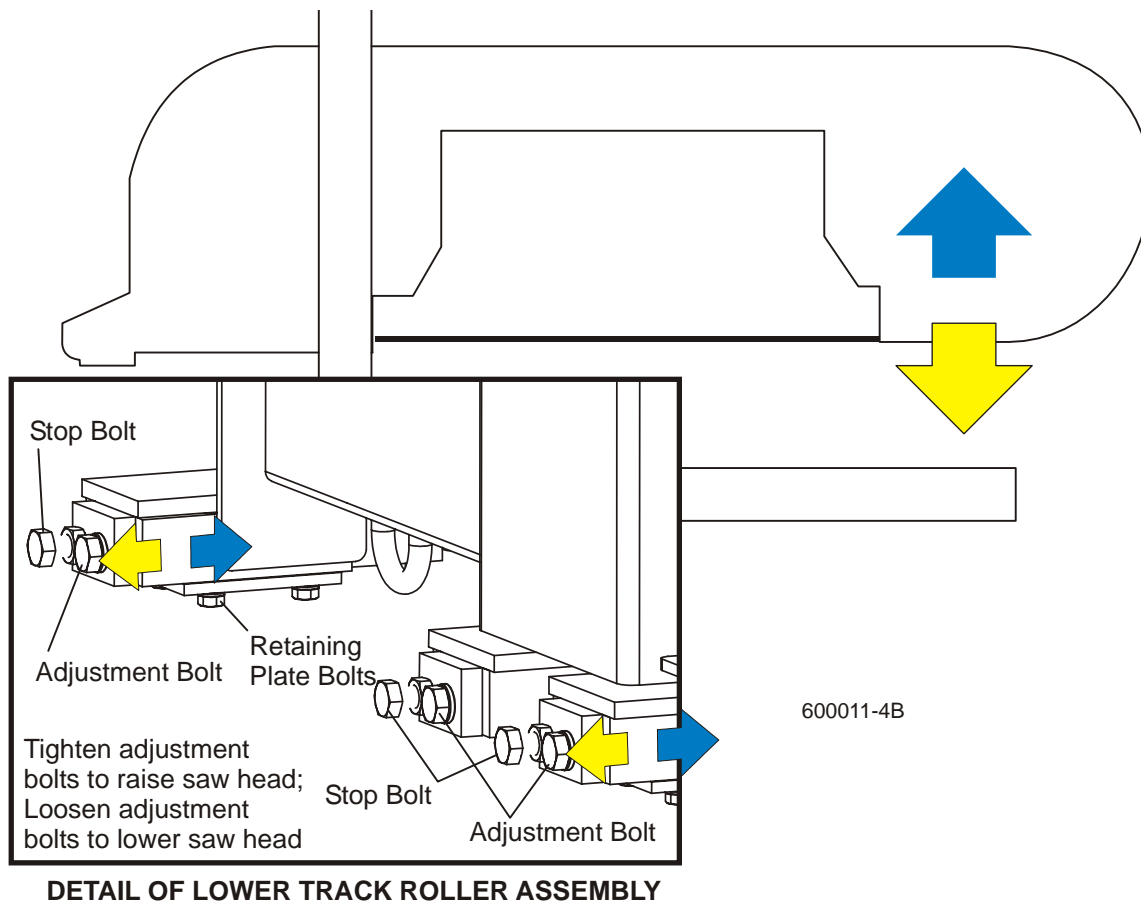

FIG. 7-25
**See Figure 7-25.** To adjust the saw head tilt, use the bolts located at the bottom of the saw head mast. Loosen the three sets of four retaining plate bolts. To raise the outside of the saw head, back the stop bolts out, then tighten the adjustment bolts. To lower the outside of the saw head, loosen the adjustment bolts and tighten the stop bolts. Recheck the